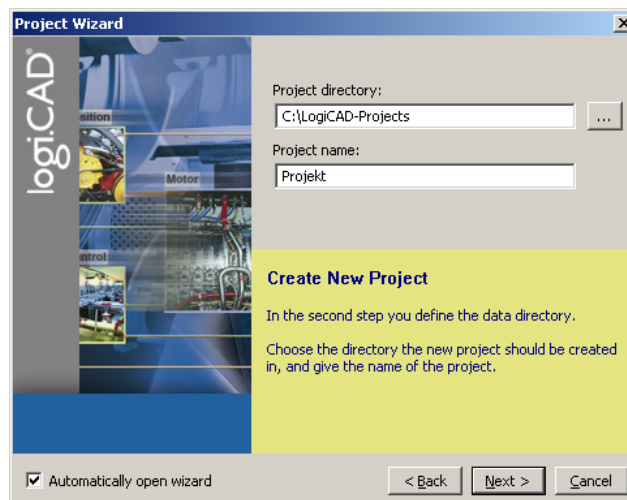

Figure 22: Project name and path
5. Specify the name of the project and the path where to store the project files, see Figure 22.